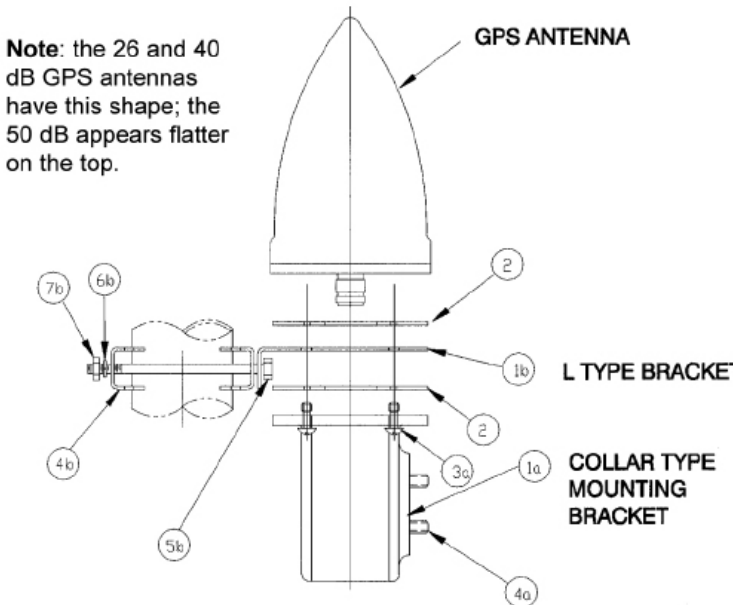
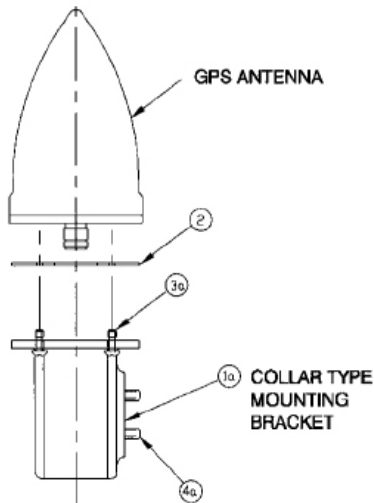
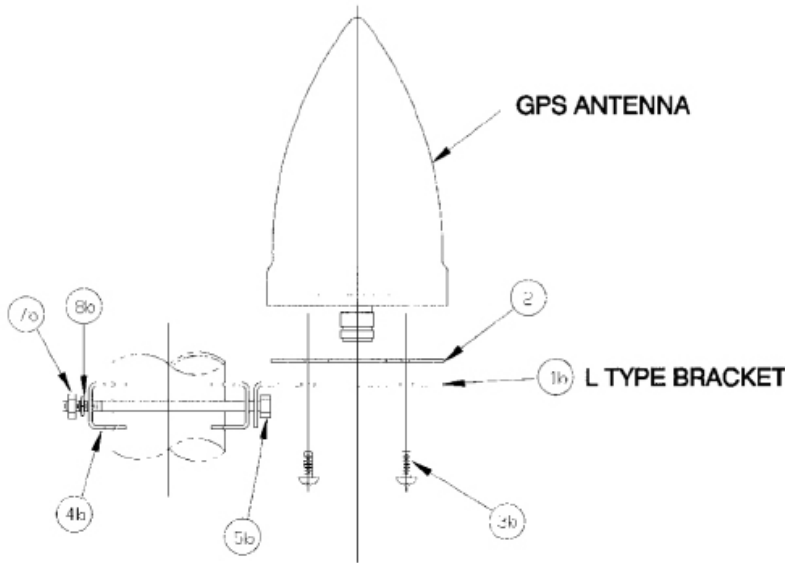

Figure 1: Standard Mount Assembly
Figure 2: Collar Bracket Mount Kit
Figure 3: L-Bracket Mount Kit
Refer to Figure 1. The Collar Bracket Mount Kit includes these parts:
Refer to Figure 1. The L-Bracket Mount Kit includes these parts:
**Note:** The Standard Mount Kit contains 2 mounting bracket types. The two brackets can be used together, as the Standard Mount Kit shown in Figure 1, separately as the Collar Bracket Mount Kit shown in Figure 2, or separately as the L-Bracket Mount Kit shown in Figure 3.
Refer to Figure 1.
Refer to Figure 2.